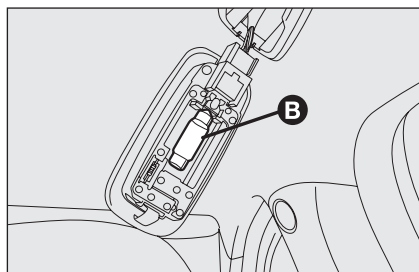

fig. 41
- ☐ replace the bulb **B-fig. 41** releasing it from the side contacts making sure that the new bulb is correctly clamped between the contacts.